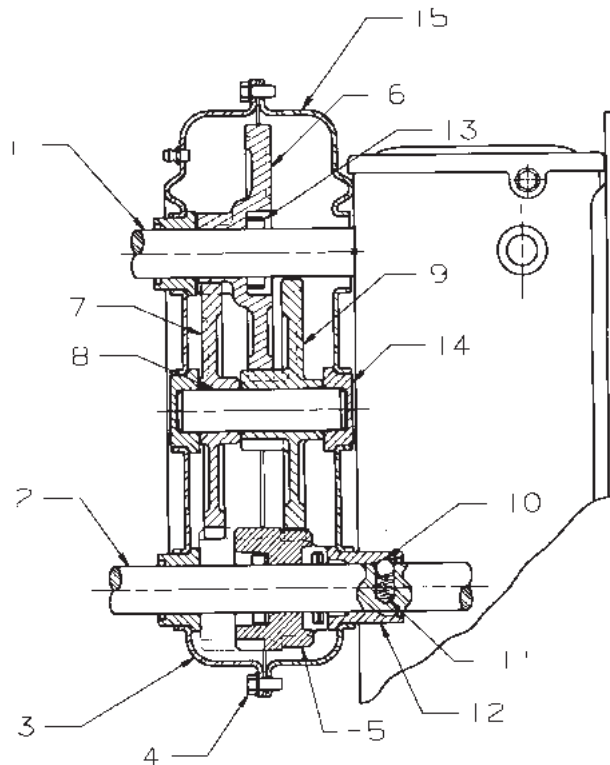

FIGURE 1
5. Make certain the gear is still in the low range position (see figure 1).
6. Remove step gear (6) from drive shaft (1).
7. Remove idler gear (7) from the idler gear shaft (8). Remove the idler gear shaft (8) and spur gear (9).